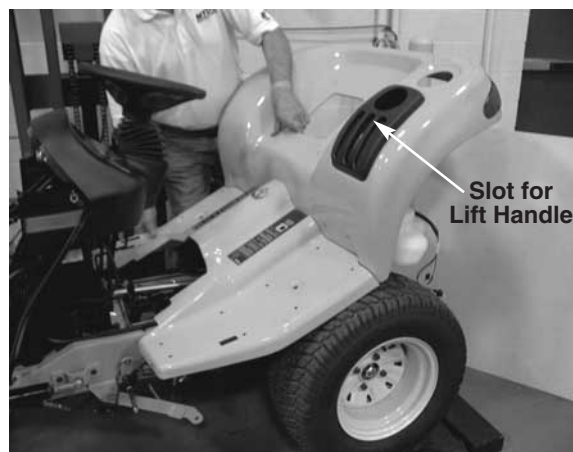

FIGURE 8.
17. Remove the lift handle from the tractor through the slot in the flap. See figure 8.